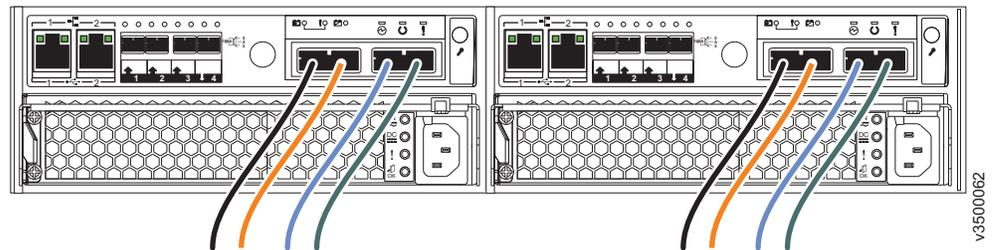

Figure 34. Example configuration with four Fibre Channel cables per canister
2. If you want to connect additional Fibre Channel cables, make sure to connect the same number of cables to each canister. Figure 34 shows an example configuration with four Fibre Channel cables connected to each canister.